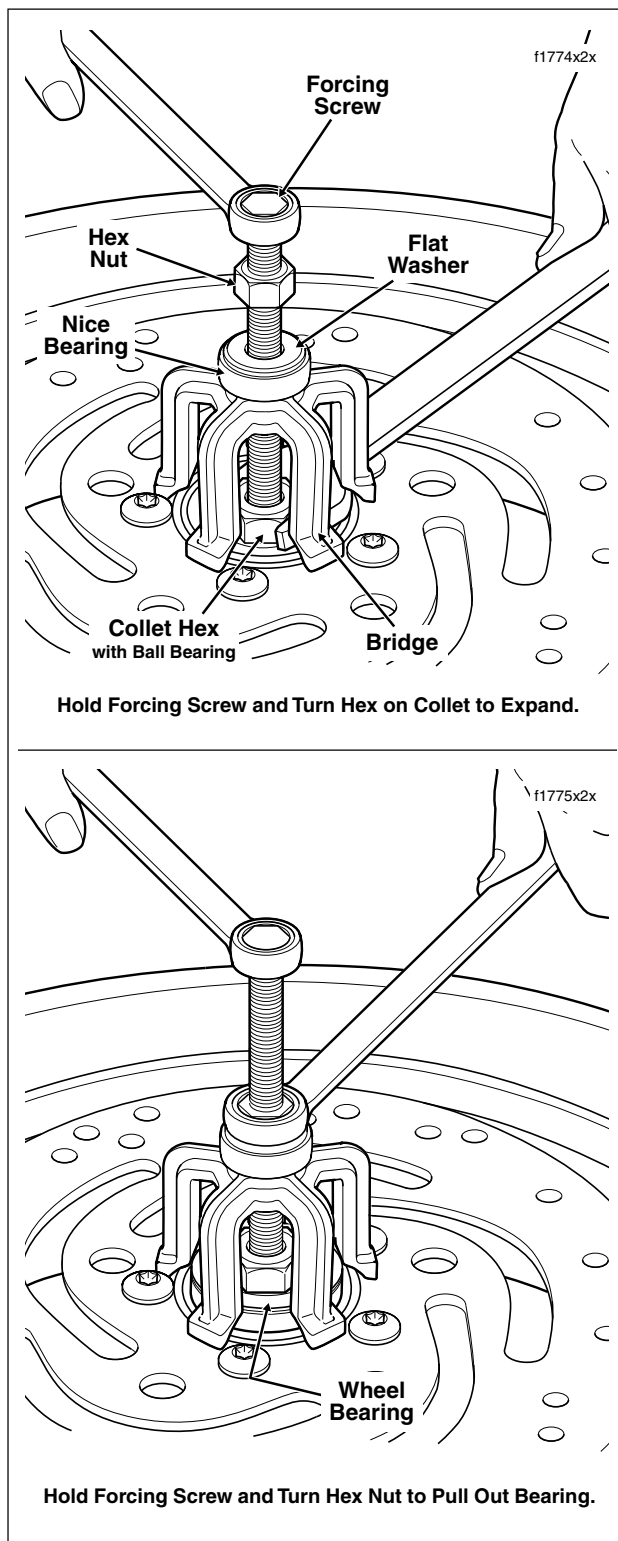

Figure 2-10. Remove Sealed Wheel Bearings
- g. Holding forcing screw to prevent rotation, turn hex on collet until lip makes firm contact with inside edge of bearing. See upper frame of Figure 2-10.
- h. Holding forcing screw, turn hex nut until bearing is free. See lower frame of Figure 2-10.